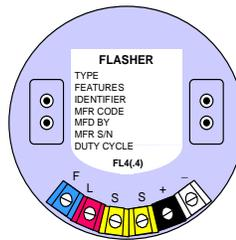

Figure 4-1
- b. Flashers (Figure 4-1) are used to regulate battery voltage to the lamp, sense lamp failure, provide a flash rhythm and turn off the light during the daytime. Flashers are available in four versions: the CG-181, CG-493, CG-481 and CG-504. The CG-181 and 493 will operate lamps 3.05 amps or less (35 watt tungsten-halogen lamp included). The CG-481 is used to operate lamps 50 watts and greater. The CG-504 will operate all lamps and can be used as a slave flasher. Flashers are available in standard and non-standard flash rhythms. Standard rhythms are stocked at the Surface Forces Logistics Center (SFLC) Baltimore. Non-standard rhythms must be purchased from the manufacturer. **NOTE:** the proper rhythm must be used. Installing a FL 2.5(1) when a FL 2.5(.3) is required will result in a power system failure.